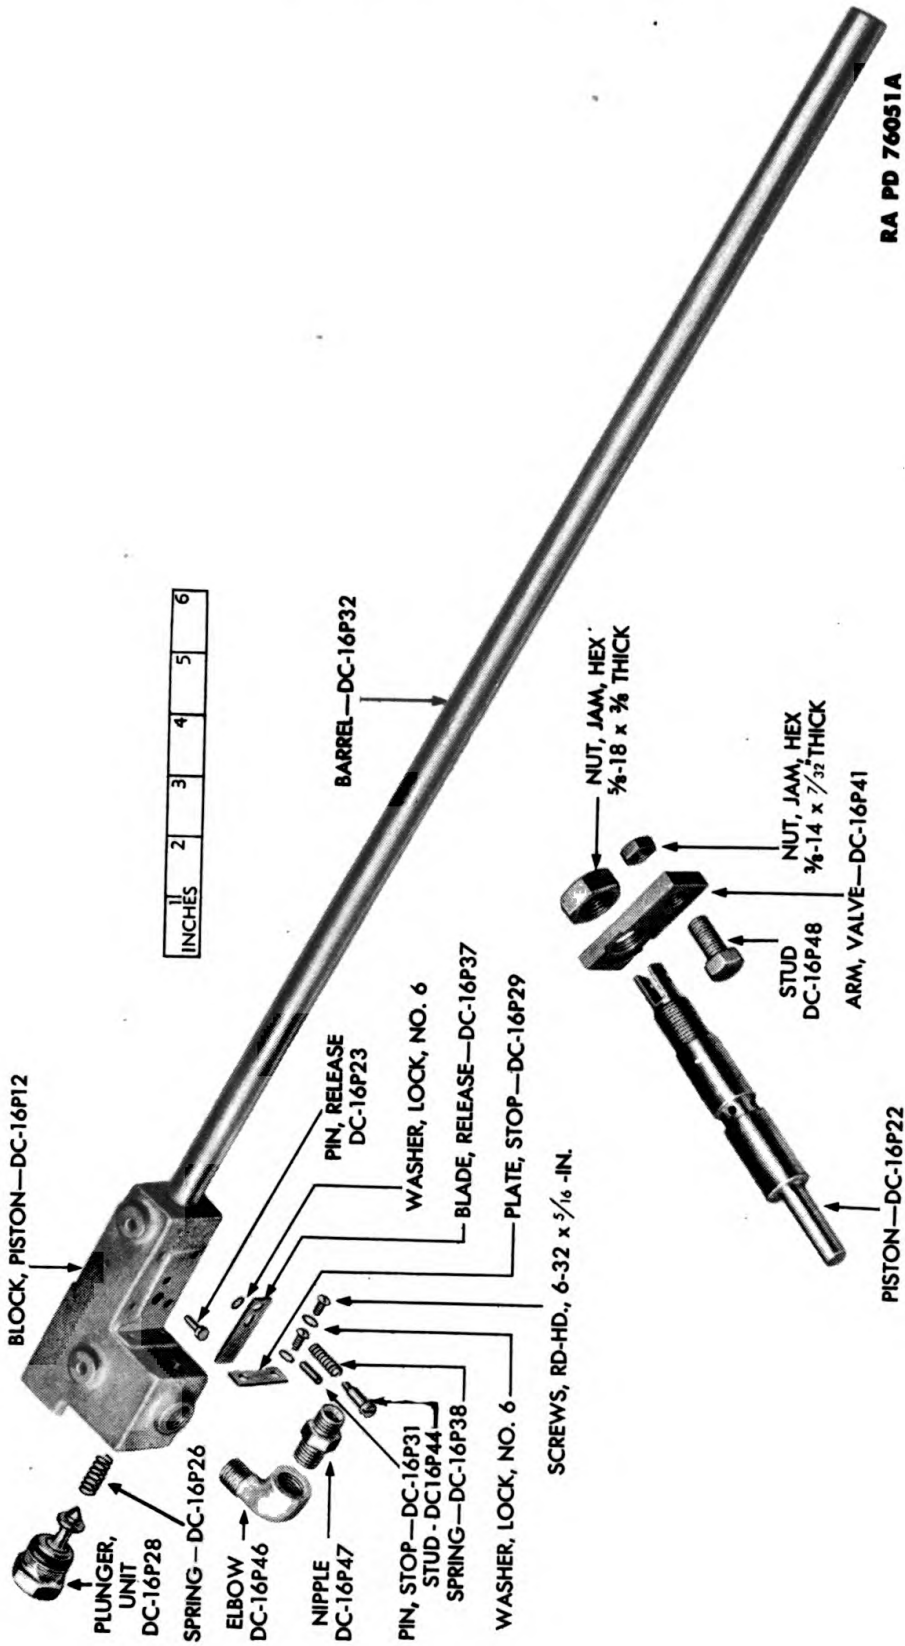

Figure 114 — Piston Block, Barrel, and Related Parts
(13) The air valve plunger unit is removed by unscrewing the hexagonal-head nut holding valve in the piston block. The air valve spring is also removed at this time (fig. 114).
(14) Remove the stud and spring from the piston block (fig. 114).
(15) Pull the release blade forward until the stop pin is free in the slot in the release blade (fig. 114).
(16) Remove the release blade, stop pin, and release pin. The release pin is located above the release blade (fig. 114).